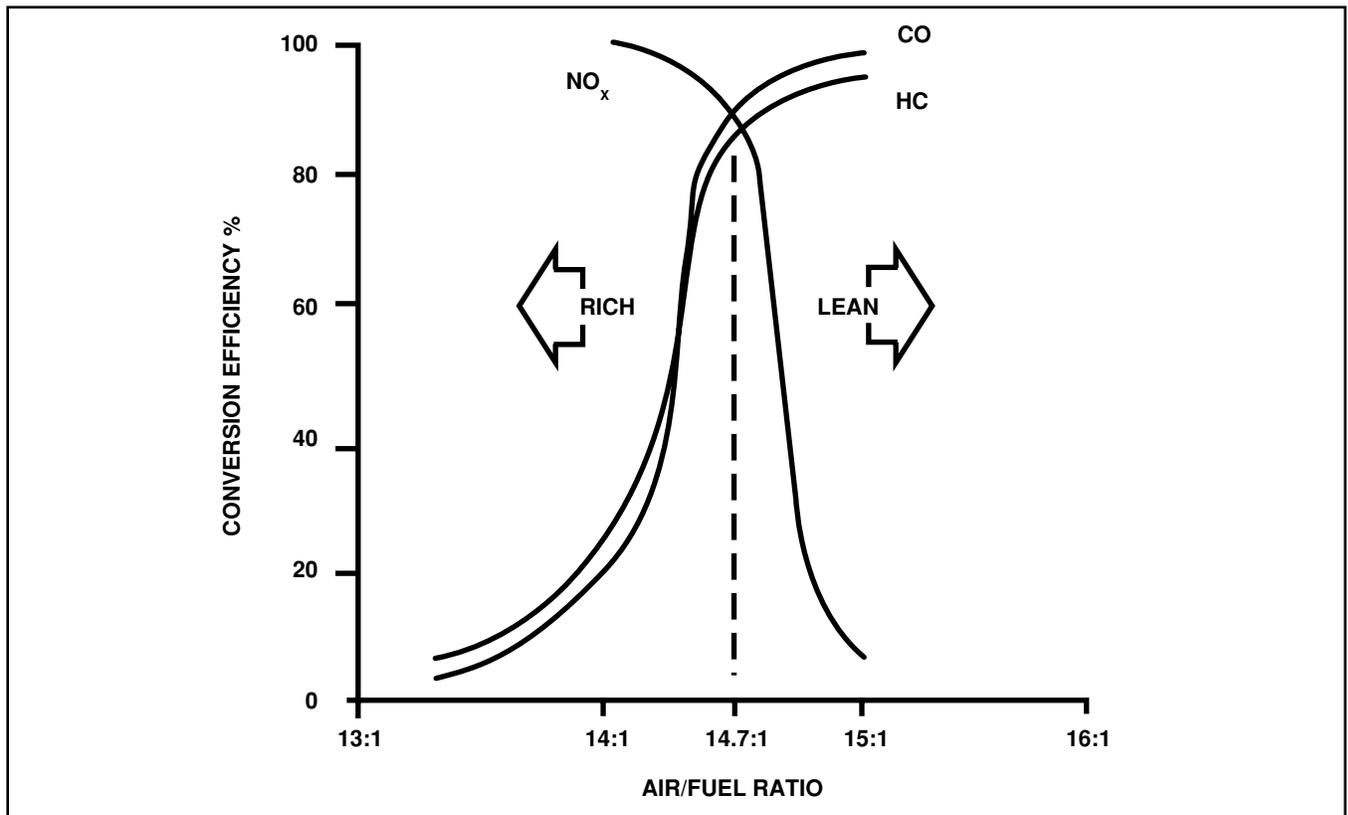

Figure 44 Conversion Efficiencies of a Three-Way Catalyst
The latest technology provides the use of a three-way catalytic converter on most automobiles. The three-way catalyst simultaneously converts three harmful exhaust emissions into harmless gases. Specifically, HC and CO emissions are converted into water (H_2O) and carbon dioxide (CO_2). Oxides of nitrogen (NO_x) are converted into elemental nitrogen (N) and oxygen. The three-way catalyst is most efficient in converting HC, CO and NO_x at the stoichiometric air/fuel ratio of 14.7:1 (fig. 44). If the mixture becomes leaner than 14.7:1 (extra oxygen), the ability to convert NO_x drops. As the mixture becomes richer than 14.7:1 (less oxygen), the ability to convert HC and CO drops.